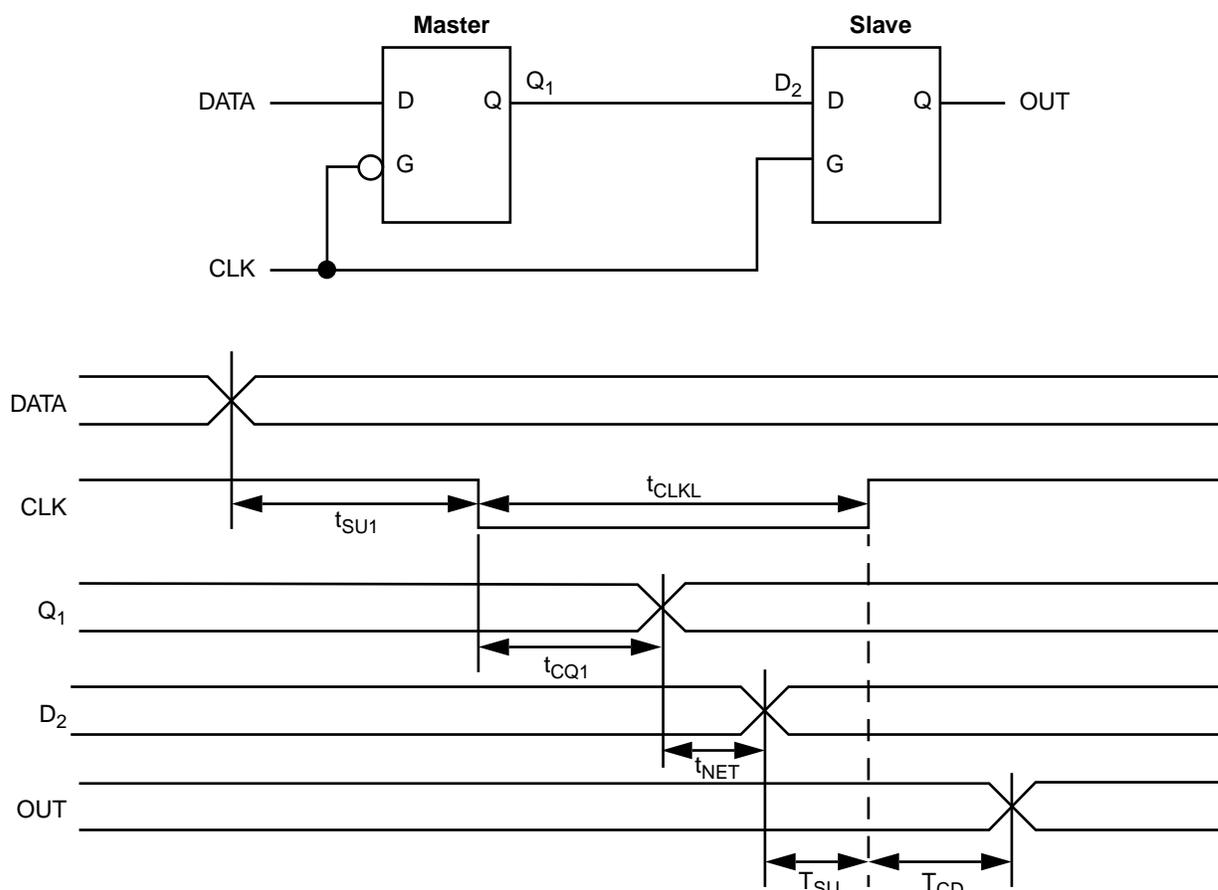

Figure 1 • Master/Slave Flip-Flop
As shown in Figure 1, two level-sensitive latches can be combined to create a positive edge-sensitive flip-flop.
5. Use net criticality to ensure that the net delay does not violate the setup requirements of the slave latch (as defined in Figure 1). Verify the timing conditions after place and route is complete. Note that an asymmetrical duty cycle on the clock signal (less than 50% low time) will provide more tolerance on the allowable net delay between latches.